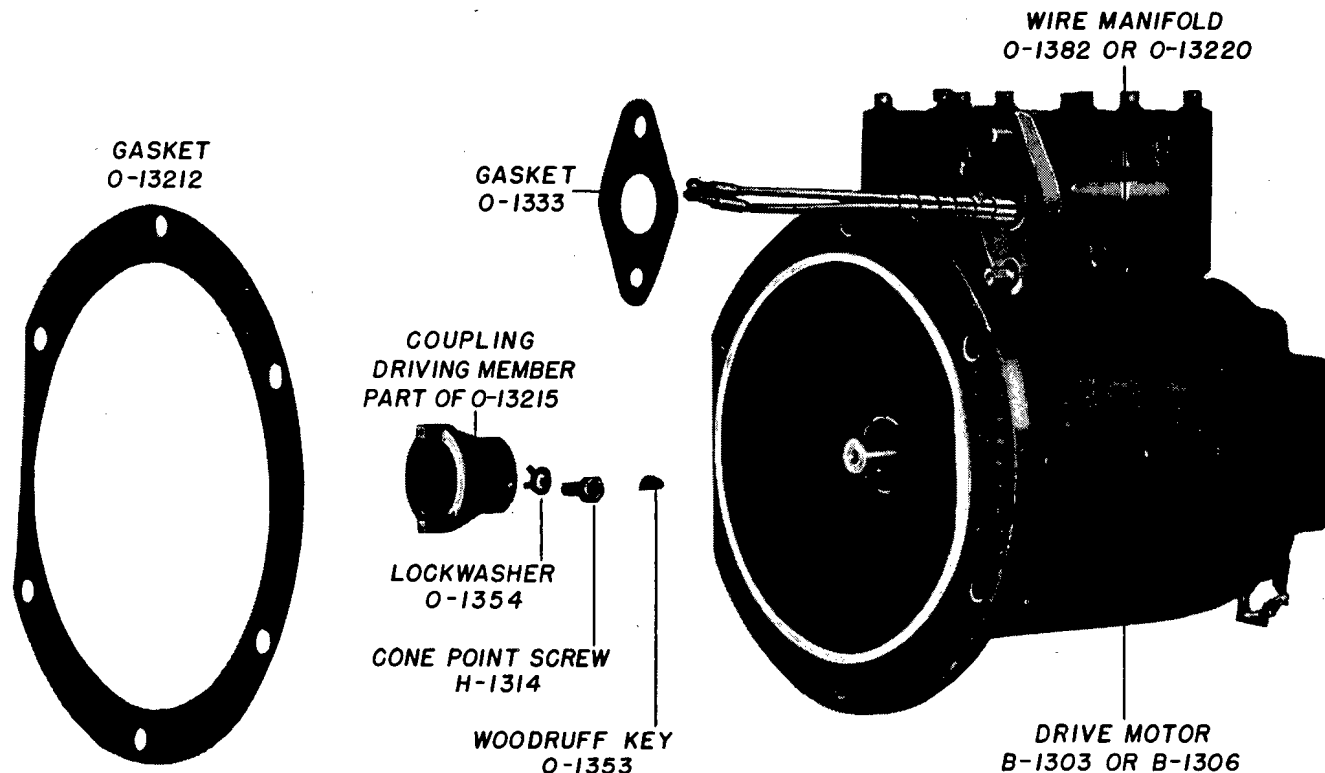

Figure 7-75. Drive Motor Assembly
(3) To remove the drive motor assembly from the gearcase, loosen the two captive hex head screws holding the wire manifold to the gearcase and remove the six nuts and lockwashers from the cone pointed motor mounting studs. See Fig. 7-75. Ease the motor carefully away from the studs, holding it firmly level to prevent it from twisting or damaging the threads on the studs.
(4) The high speed pinion shaft assembly is now exposed for inspection, adjustment or disassembly. It is important to note that it is not necessary to take this assembly from the gearcase in order to remove the complete gearcase from the main housing.
(8) To disassemble the drive motor, remove the terminal box cover shown in Fig. 7-75 by loosening the eight captive screws. Loosen the two hex head captive screws on the side of the terminal box to remove the wire manifold. The driving member of the Oldham coupling, shown in Fig. 7-75, is removed by bending the locking ears of the lockwasher away from the cone pointed locking screw and removing the screw. See Fig. 7-76. The driving member can then be pulled off the motor shaft.